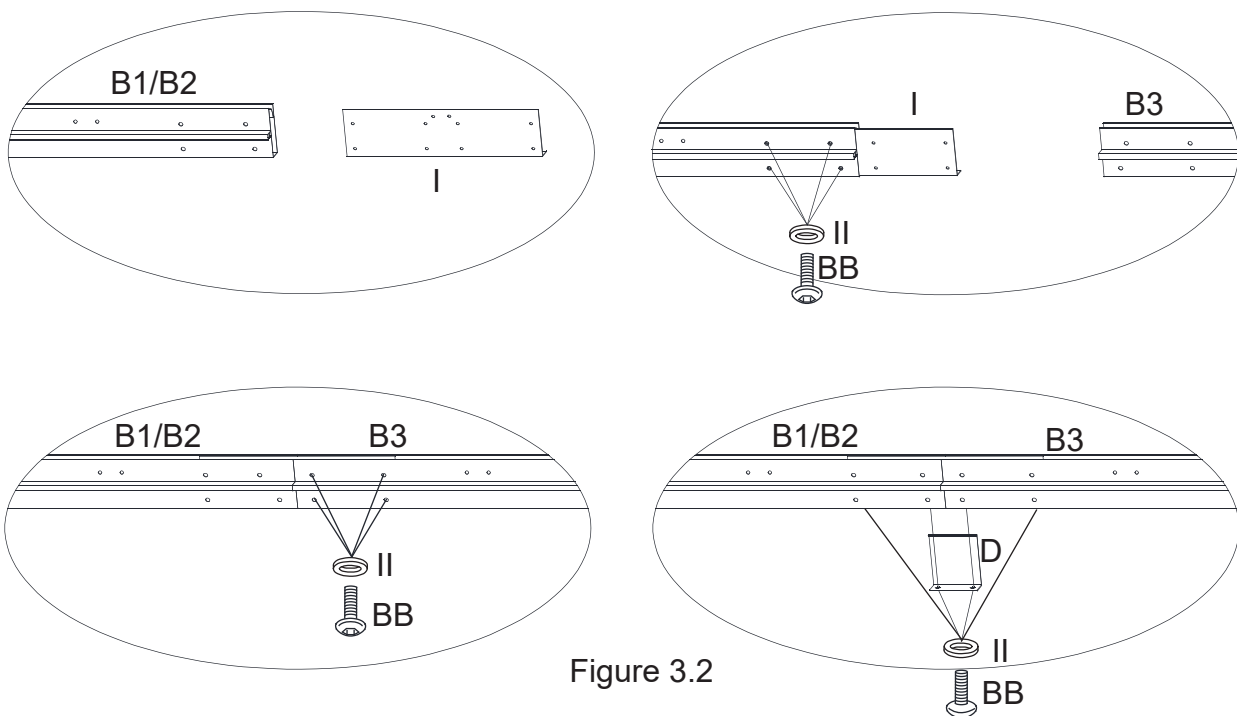

Figure 3.2
3.2.Connect the Lintel (B3) with the Lintel (B1/B2) through the Lintel Connector -Large (I) by bolt (BB) and washer (II) , then put the Lintel Cover - Center (D) onto the joint of the two lintels with bolt (BB) and washer (II), pay attention to install the screws based on the orders shown in the ilustration. See Figure 3.2.